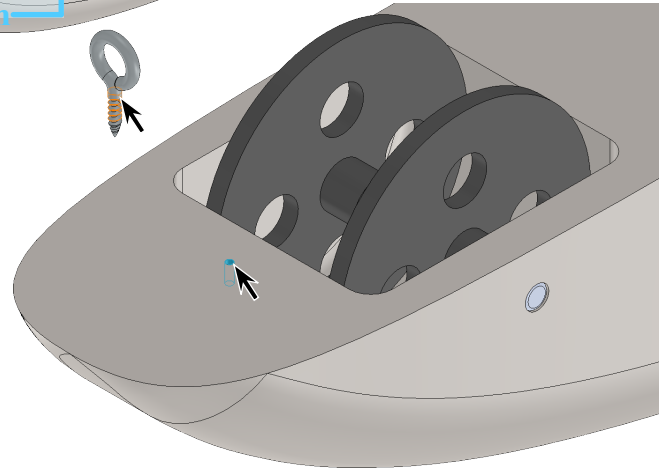

Fig. 26
- Step 3. Click **cylindrical inside face of the hole in Body** and **cylindrical face of Eye Screw**, Fig. 26.